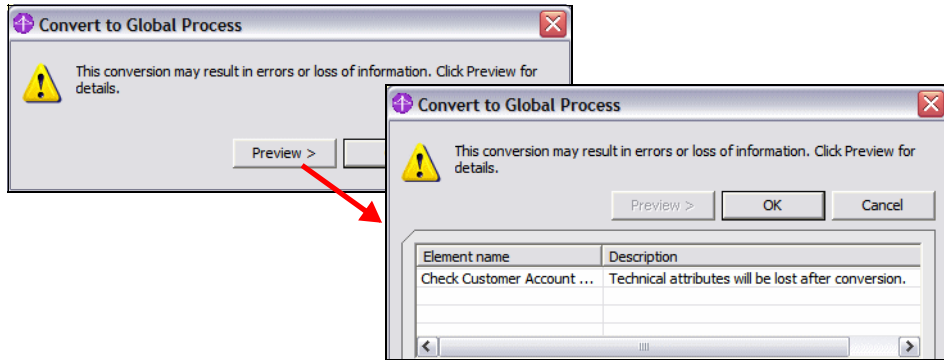

Figure 15-13 Changing a task to a process
- ▶ A warning is displayed that the conversions may result in errors or loss of information (Figure 15-13).